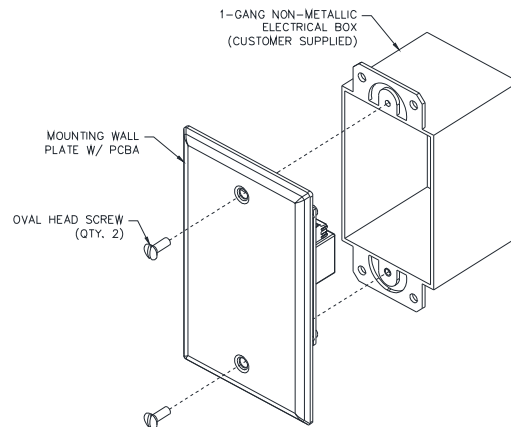

Figure 3. Wall Mounting Plate to Single Gang Box Installation
8. Install the wall mounting plate with PCBA to a single-gang box using the supplied oval-head screws (see Figure 3).